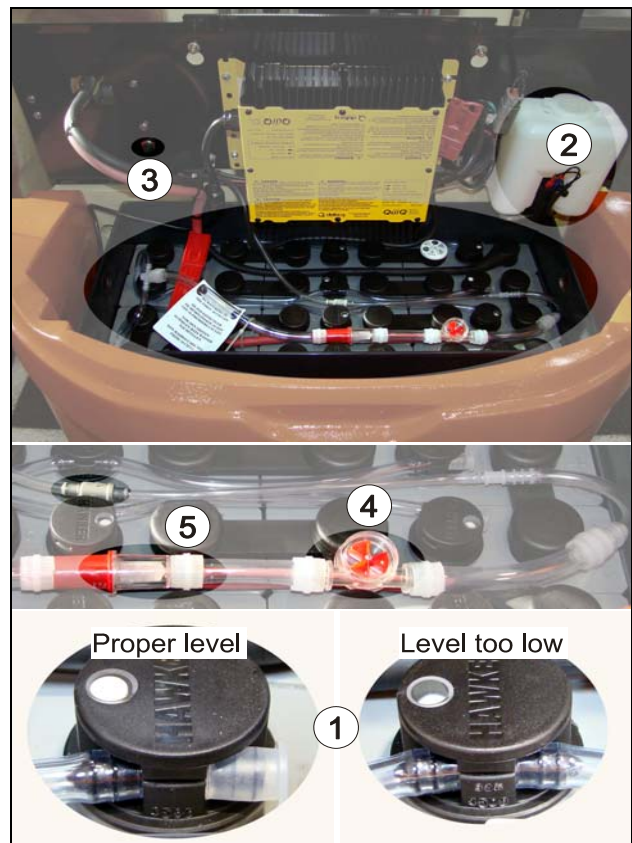

Figure 8-2. Battery filling
- Disconnect and clean the filter (5) (See Figure 8-2) by reversing the water flow from the normal direction.